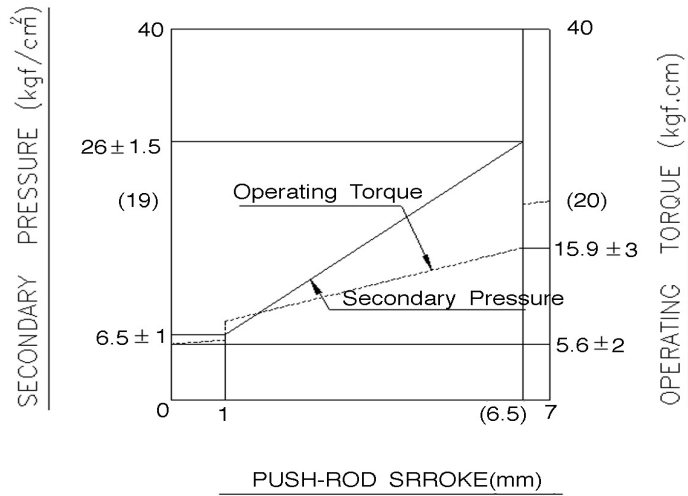

Figure 2
Signal Passage (Figure 2)
1. Oil supplied to port (PP, Figure 2), after passing through orifice (Lc3), is divided into two flows. One flow is sent to port (PT), and the other flows through land (Lc4) and passage (5) to land (Rc3) and into tank passage (Ta).
2. The same oil supplied from port (PP), after passing through orifice (Lc5), flows partly to port (PA) and passes partly through passages (L4), (8) and (R4), to boom spool 1 land (Rc4) and flows into tank passage (Ta).
3. The oil passing through orifice (Lc6) flows partly from land (Lc7), to tank passage (Ta), and passes partly through passage (4) to travel spool land (Rc5) and flows into tank passage (Ta).